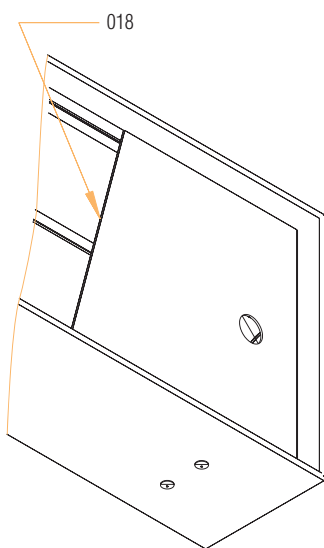

Figure 7
- Control accessories on the water side (01, 02, 03, 04, 05, 06) are attached to the convector upon delivery and are not installed to the heat exchanger. When connecting straight valves and shut-off cocks, nut should be counter-tightened (figure 6). When tightening angle valves and shut-off cocks, counter-torque should be applied with threaded rod (1/2" thread) (figure 7). If not, attached unit can be removed from the heat exchanger, causing damage on the teflon protected joint. It can cause water leakage in the joint. Standard valves and shut-off cocks are suitable for use with steel pipes. If copper pipes are to be used, it has to be specified upon ordering. In case of installation of accessory 05 - thermostat head with a remote surface mounted sensor, it has to be installed before applying concrete. Water tightness of the installation shall be verified as well.